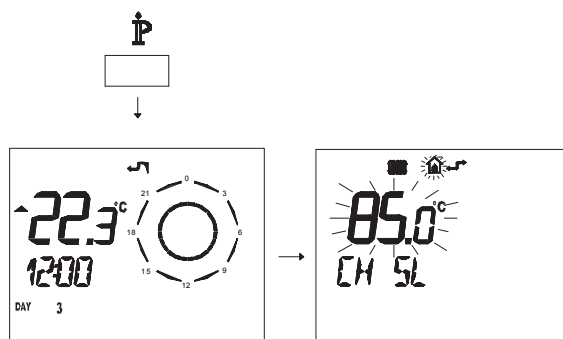

Fig. 7.36
- Press button **IP** for more than 3 seconds to enter in **INFO** mode (Fig. 7.36).